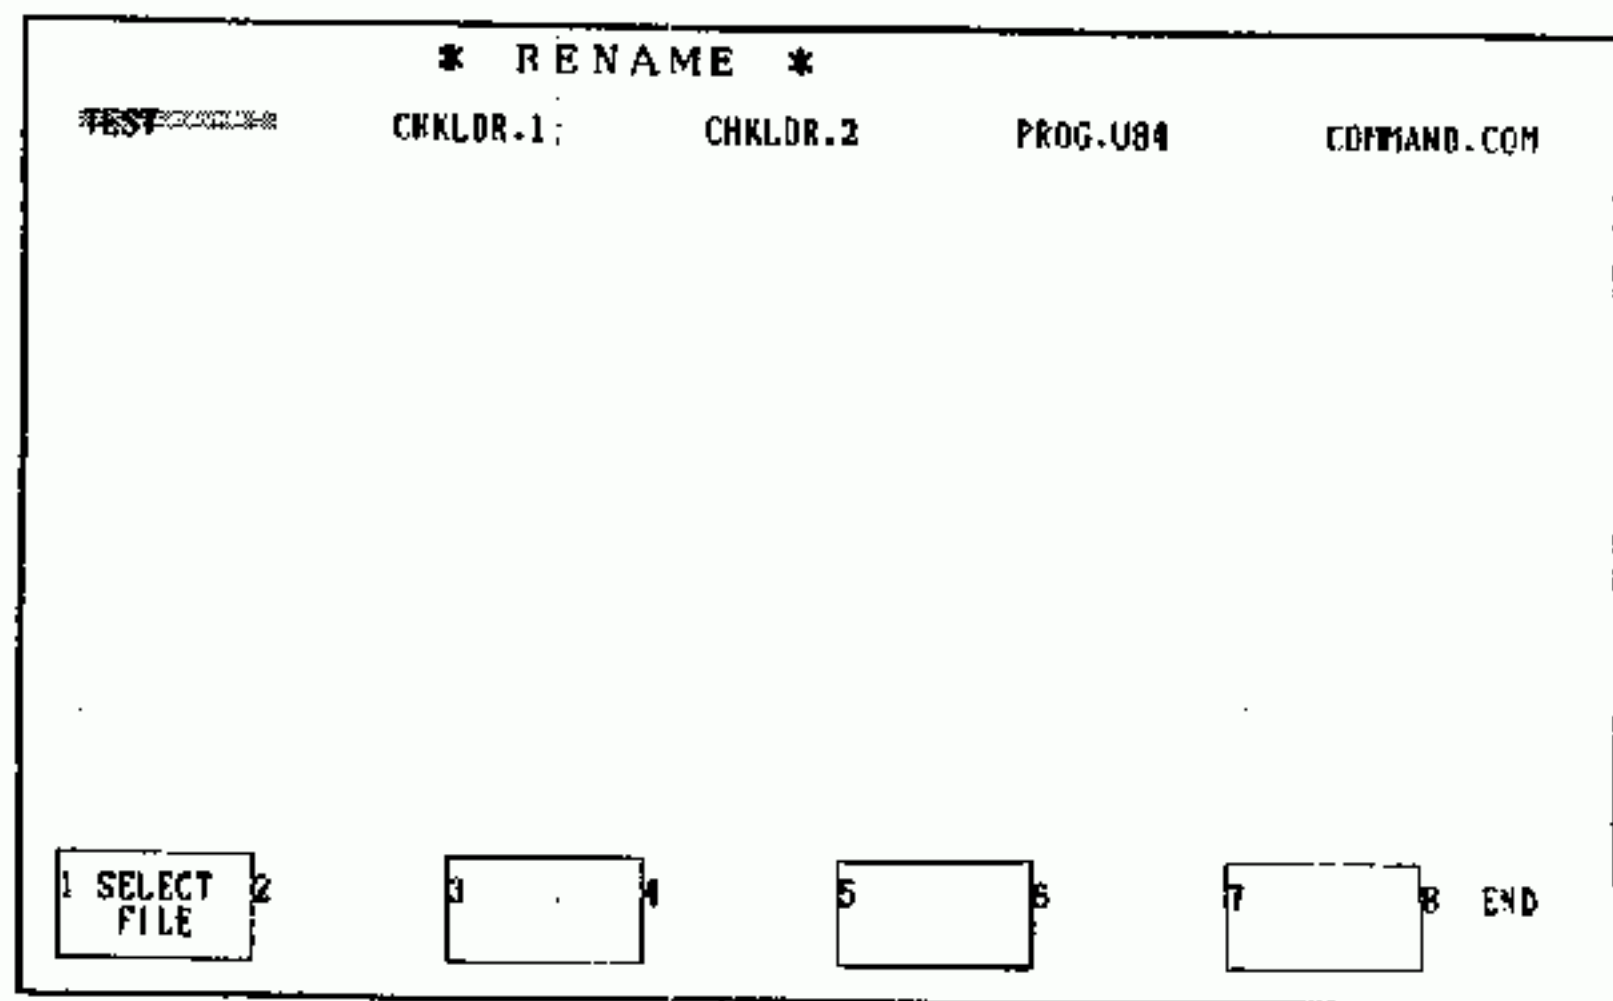
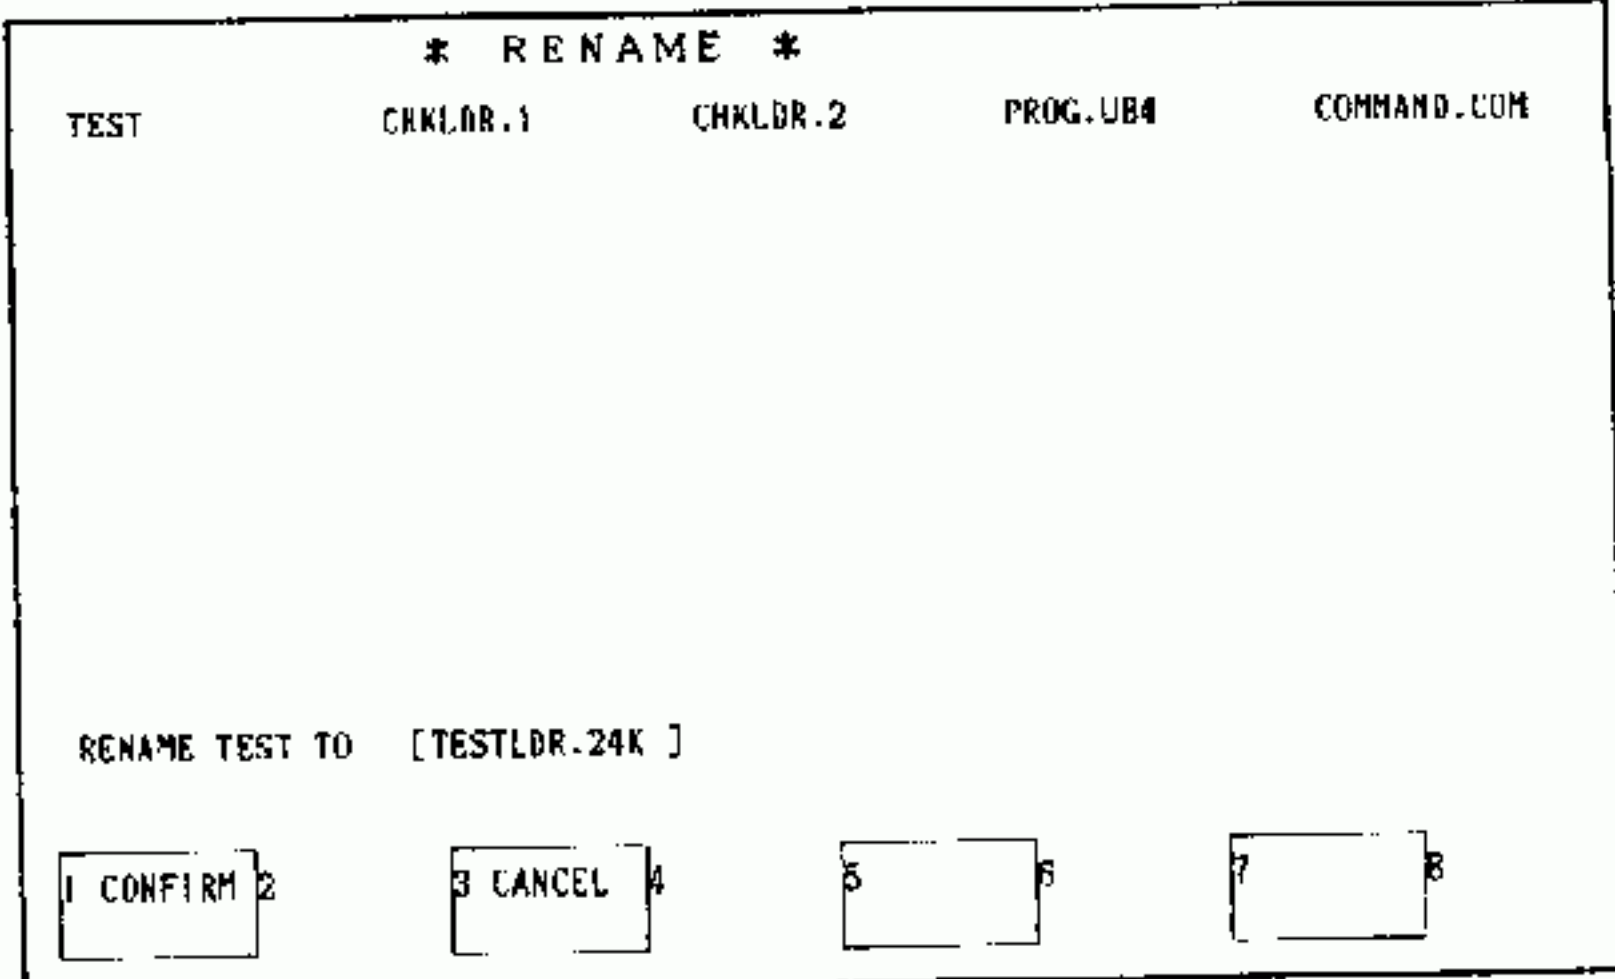

Fig. 5.2.152
Fig. 5.2.154
1. Depressing "CANCEL" key in the display of Fig. 5.2.154 returns to the display shown in Fig. 5.2.152.
(6) File Copying